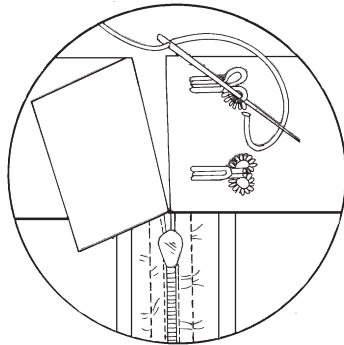

Fig. 14-1
1. Place the hook on the underside of the overlap, at least $\frac{1}{8}$ inch (3 mm) from the edge. Using small stitches and a single thread in the needle, stitch around each loop or ring. Sew through one layer of fabric so that the stitches will not show on the right side. (Fig. 14-1)